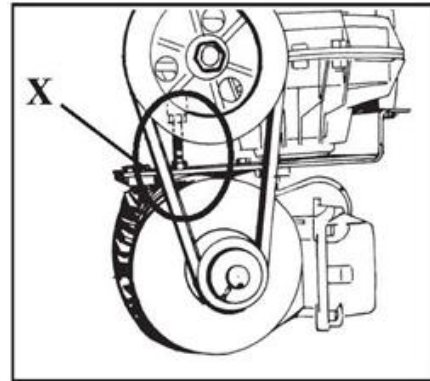

Fig. 5-3
- 3) Tighten the belt using the adjusting screw X located on the engine mount (fig. 5-3).